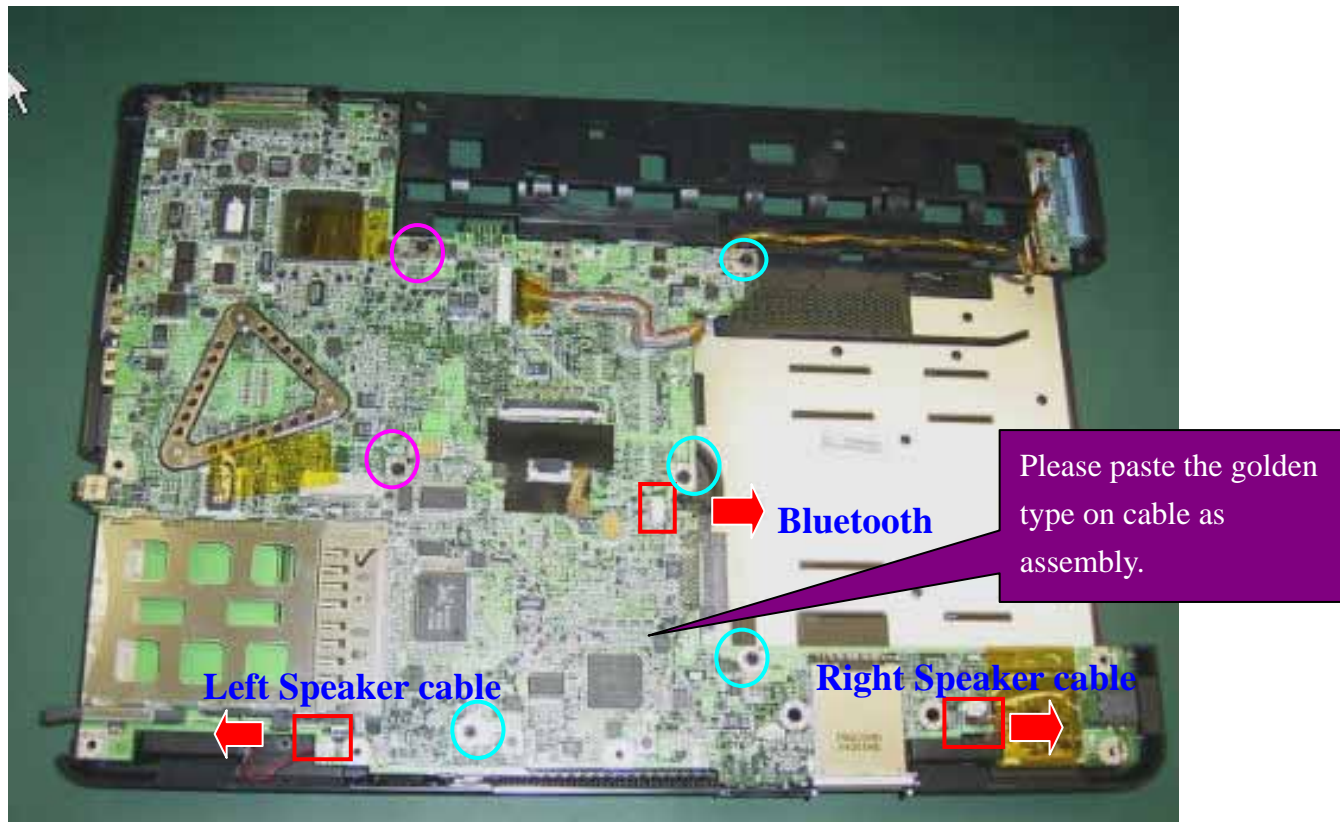

Figure 2-22 Lift up the M/B
3. Remove **4* (item 5) / 2* (item 4)** screws. Then Lift up the mother board carefully. (Figure 2-22)